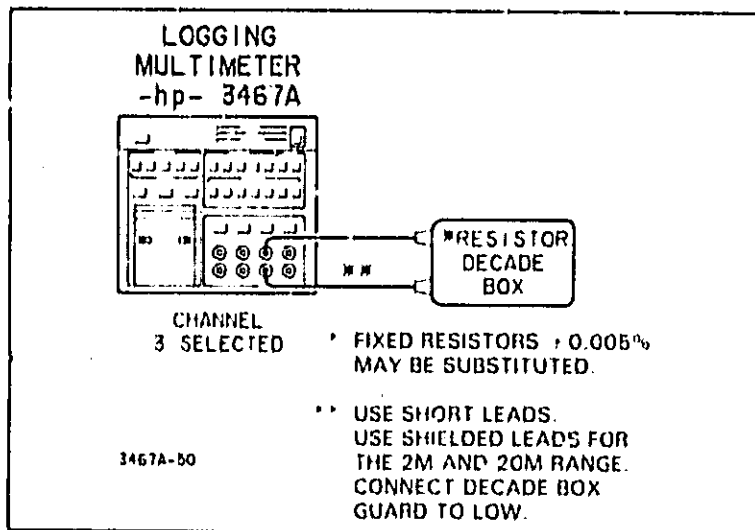

Figure 5-4. Ohmmeter Accuracy Test.
- a. Set the Logging Multimeter function to kΩ in the 200Ω range. Connect the resistance decade box to Channel 3 as shown in Figure 5-4.